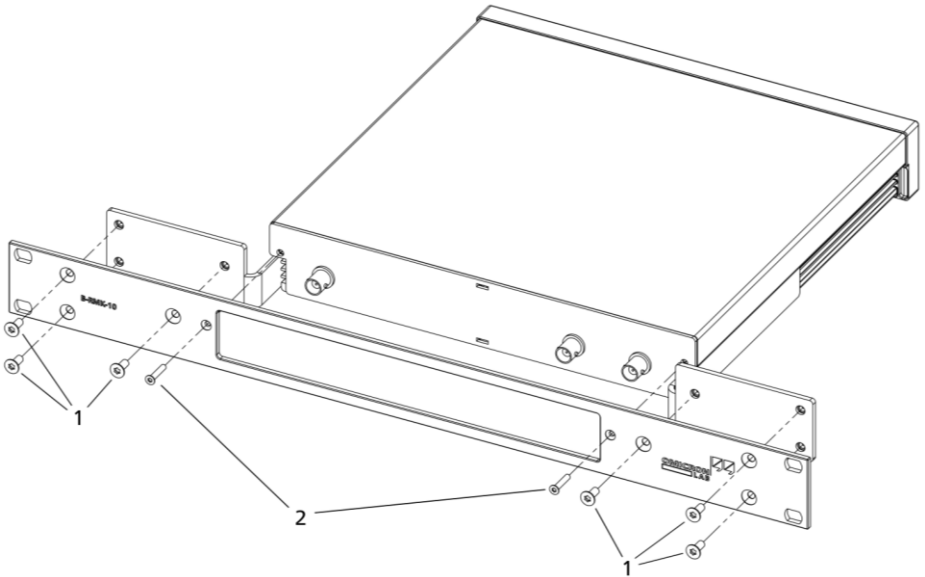

Figure 2-2: Mounting the *B-RMK-10* to the device
Then use the M3 countersunk screws (2) to mount the *B-RMK-10* to the device as shown in Figure 2-2 below.